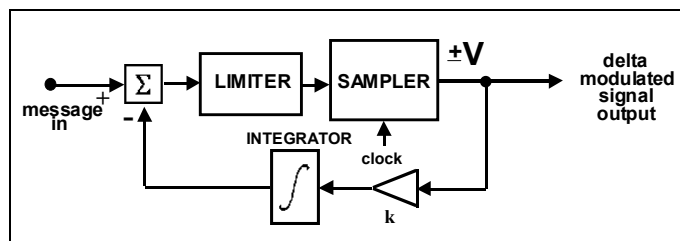

Figure 1: basic delta modulator
The basic delta modulator was studied in the experiment entitled *Delta modulation*. It is implemented by the arrangement shown in block diagram form in Figure 1.
The block diagram of Figure 1 was modelled in the experiment entitled *Delta modulation*. Refer to that experiment for details.
*T3 model the block diagram of Figure 1. This is not the adaptive modulator. Refer to the experiment entitled **Delta modulation** for details. The amplifier in the feedback loop is modelled with two BUFFER amplifiers in cascade.*